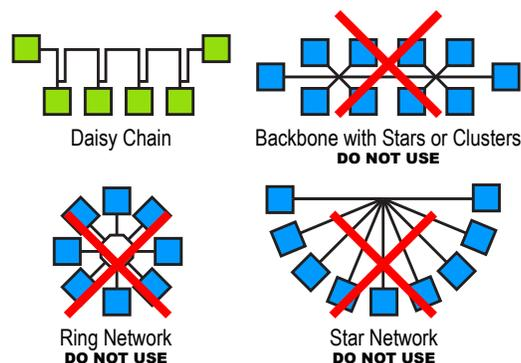

Figure 2-2. Example of Daisy Chain Topology
- Daisy-chain network topology is required. (refer to Figure 2-2)
(refer to Figure 2-2)